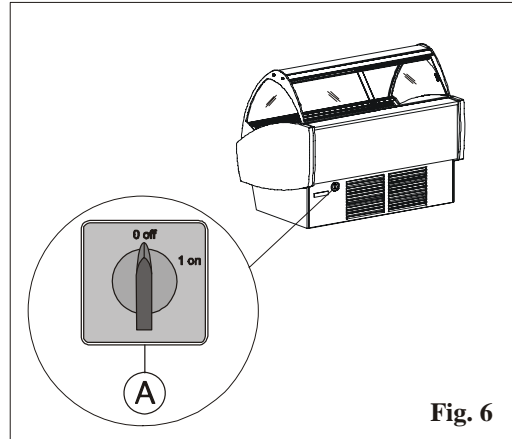

Fig. 6
- 2) Activate the display cabinet master switch, which is found on the rear protection panel. To introduce the electric power supply to the display cabinet, place the master switch at position “1” (fig. 6 pos. A).
To stop the plant act on switch (A), which is found behind the rear protection panel. Position the master switch at “0” (fig. 6 pos. A) disconnecting the display cabinet power supply.
After turning off the power to the machine, you must then disconnect the main switch, which is located on the rear protection panel (see fig. 6).